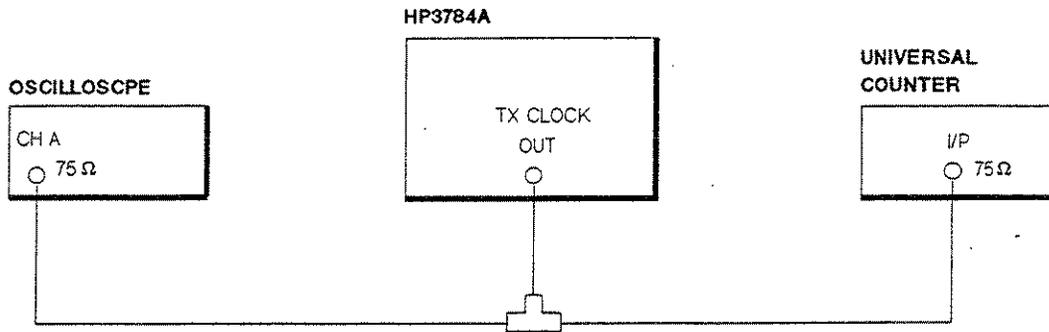

Figure 8-2 Internal Clock Test Set-up
1. Connect the HP 3784A TX CLOCK OUT port to the Universal Counter as shown in Figure 8-2.